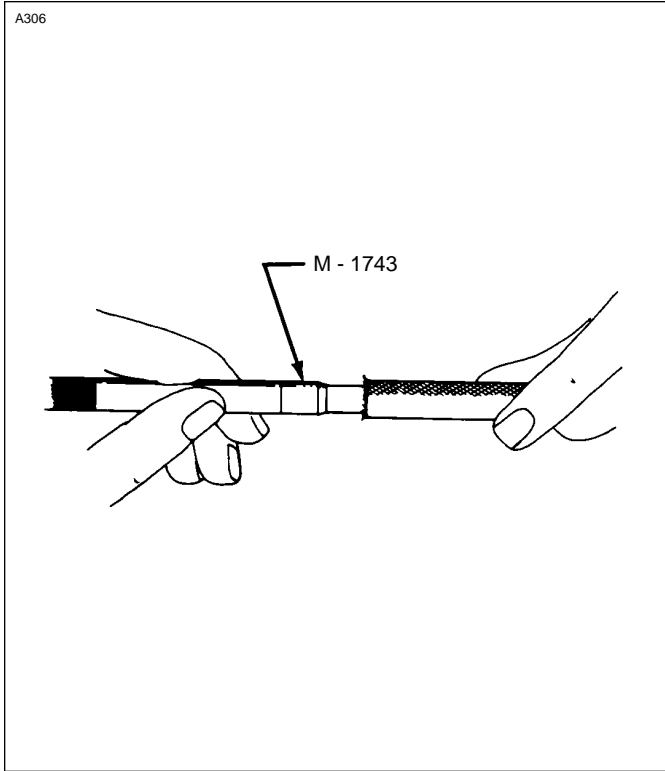

Figure 8-14 Stripping Tool
- c. Flare out shielding, then without allowing any of the shielding to fold under, insert Slick M-1743 Stripping Tool under the braided shielding. Refer to Figure 8-14.